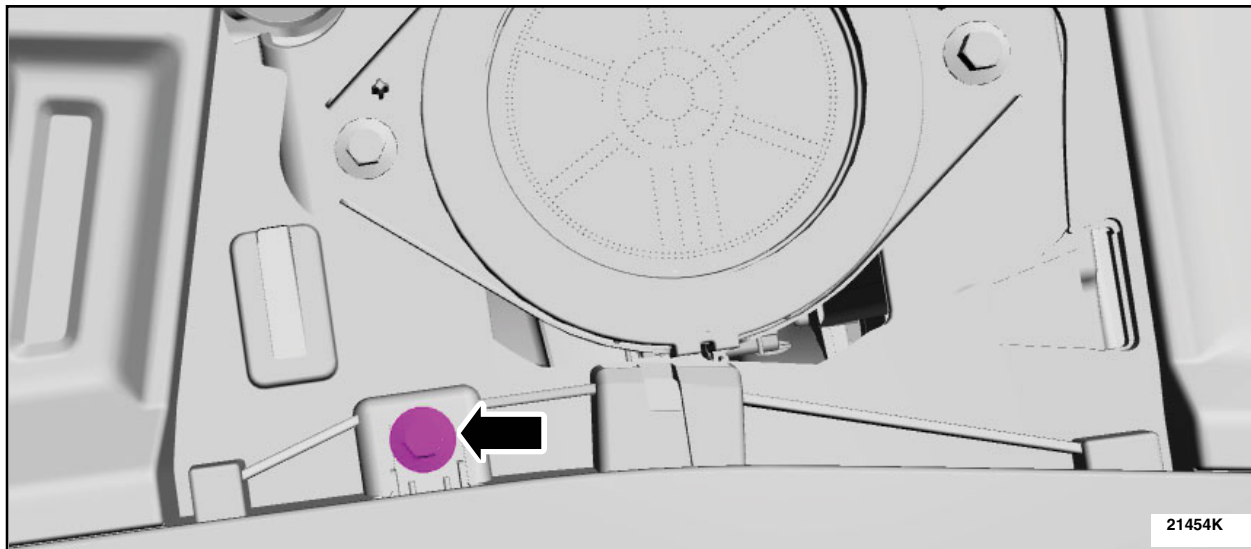

FIGURE 10
10. Remove the bolt. See Figure 10.